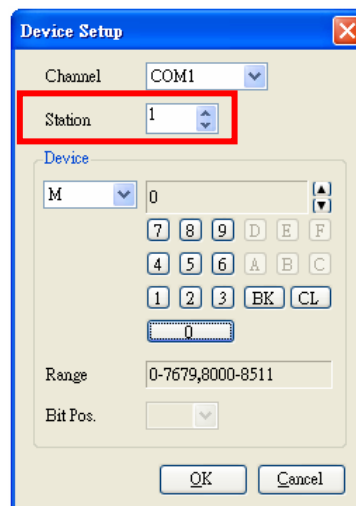

Fig. 2-1-24 Station Number Setup
- The PLC station internal number is 1 by default, so the component of the edit screen should have the station number set to 1 before the communication can begin. This is shown in Figure 2-1-24.